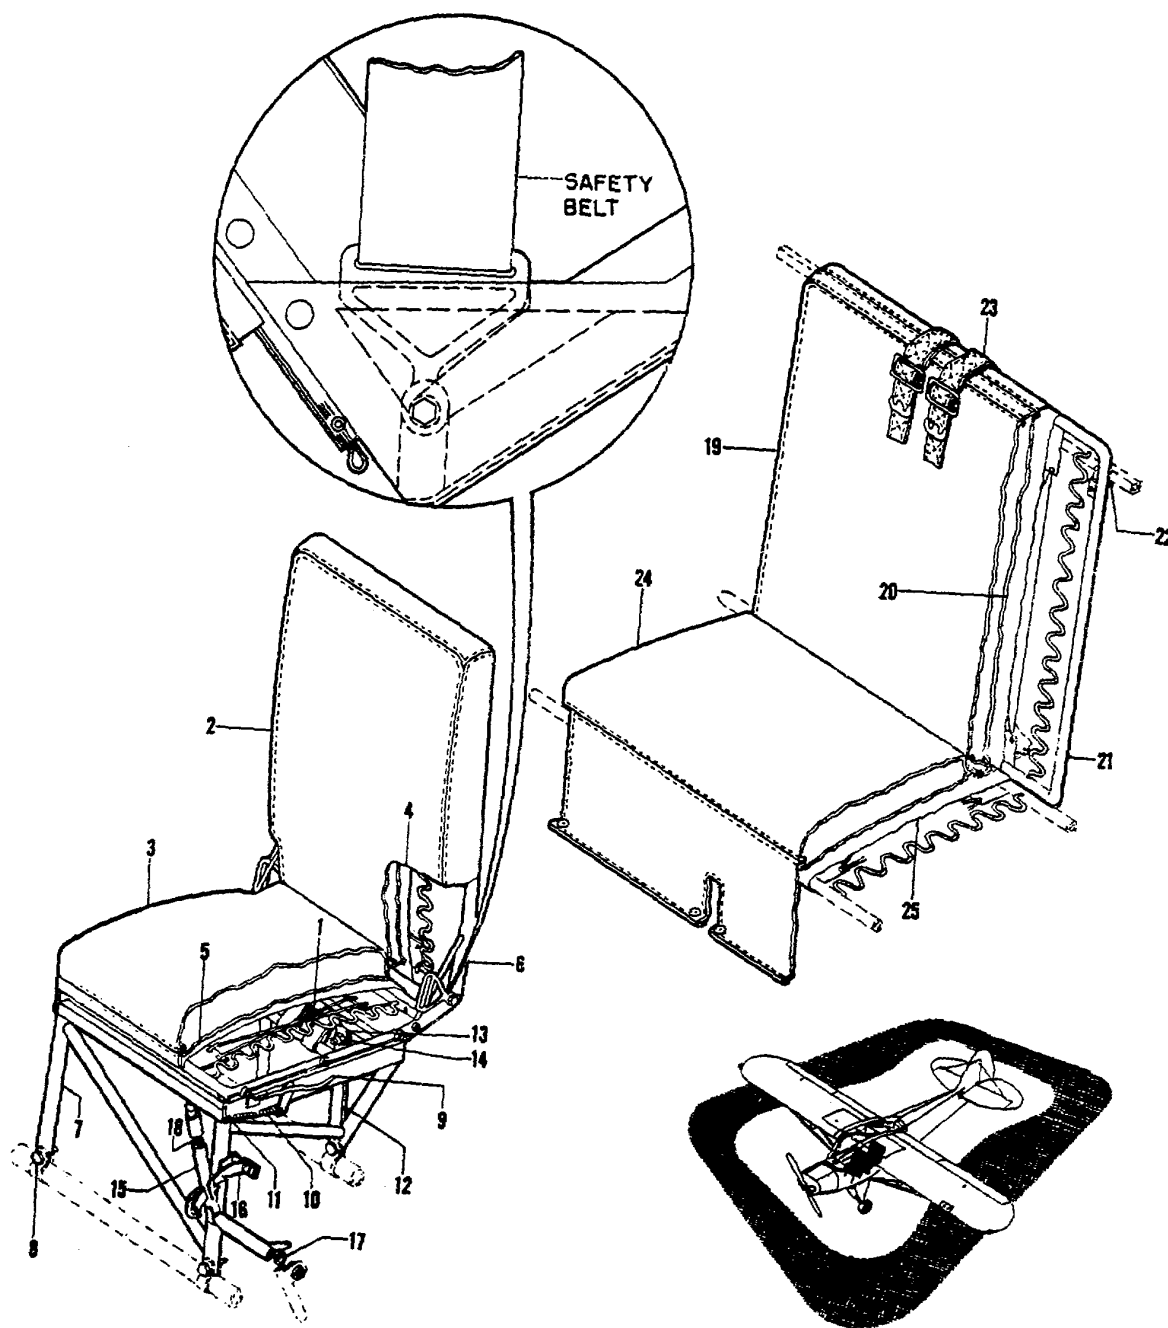

Figure 2-20. Seats Installation
2-63. REMOVAL OF SEAT ASSEMBLIES. (See figure 2-20.)
- a. The front seat frame assembly (6, figure 2-20) may be removed as a unit by disassembling bolt and nut (8). Remove cowl clip (22) and pull out seat stop
2-64. CLEANING OF SEAT ASSEMBLIES. (See figure 2-20.)
2-65. INSPECTION AND REPAIR OF SEAT ASSEMBLIES. (See figure 2-20.)
- a. Inspect each shoulder harness strap assembly (23, figure 2-20) and safety belt (26) for damage or wear. These assemblies must be replaced if damaged or worn.
2-66. INSTALLATION OF SEAT ASSEMBLIES. Both front and rear seat assemblies may be reinstalled in the reverse order of their removal. (See figure 2-20.)**2-67. REMOVAL OF WINDSHIELD, ENCLOSURE SIDE WINDOWS, AND TOPDECK WINDOWS. All windshield and window plastic panels may be disassembled by removing their attaching screw according to figure 2-17. Do not remove windshield or windows unless necessary for repair or replacement of parts.****2-68. CLEANING OF WINDSHIELD, ENCLOSURE SIDE WINDOWS, AND TOPDECK WINDOWS. (See figure 2-17.) Repair plastic windows according to steps c, d, and e of paragraph 2-60.**
Legend for Figure 2-20.